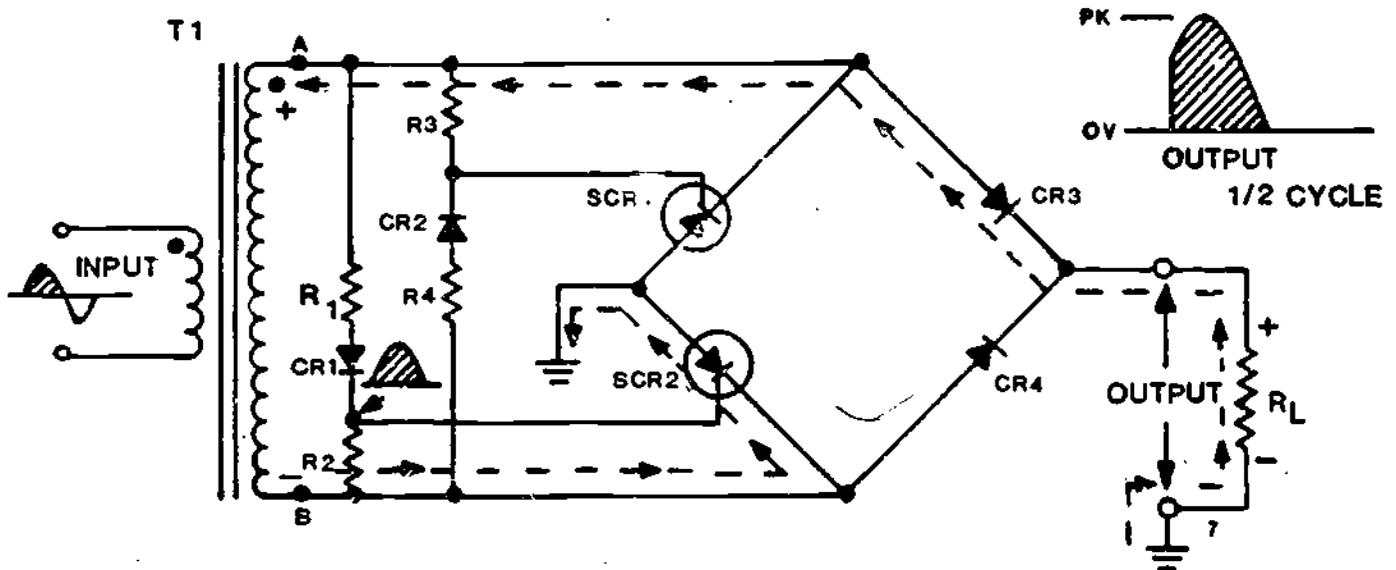

Figure 19
23. Refer to the SCR bridge power supply schematic shown in Figure 19.